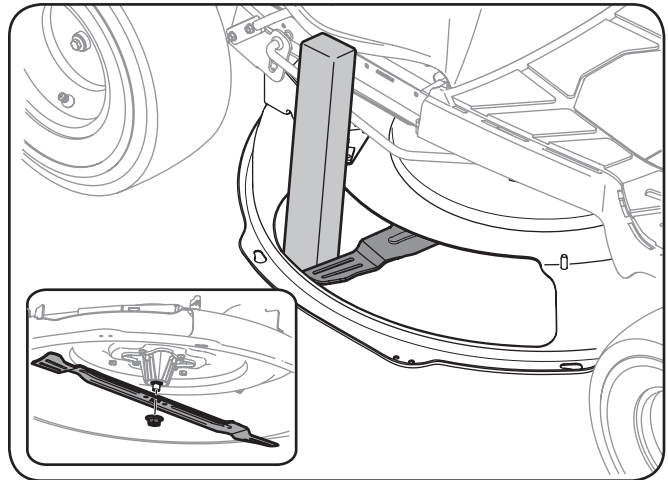

Figure 7-7
2. Using a block of wood or 2 x 4, insert it into the deck opening and rotate the blade around until it wedges the wood between the deck opening and the cutting blade, as shown in Figure 7-7.
3. Remove the hex flange nut that secures the blade to the spindle assembly. See the Inset of Figure 7-7.